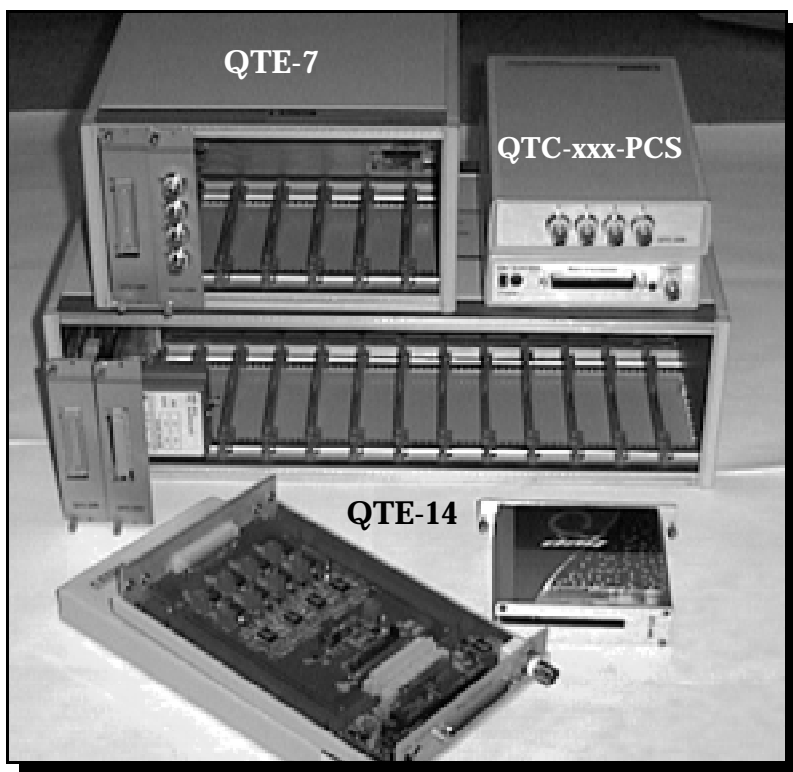

Figure 2-1. SignalPro Series Data Acquisition Racks and Enclosures
There are three housing options available for SignalPro modules: (1) the QTE-14 rack mount enclosure which holds up to 14 modules, (2) the QTE-7 half rack enclosure which holds up to 7 modules and (3) the QTC-xxx-PCS portable unit which accommodates a single module. (See Figure 2-1).